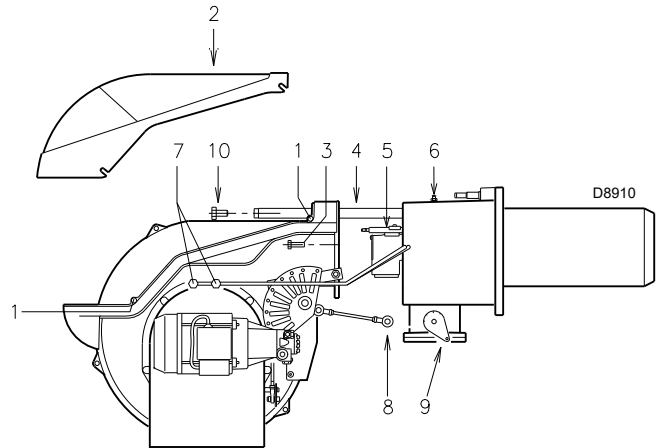

Fig. 42
- Loosen the screws 1)(Fig. 42) and remove the cover 2).
- Replace the screws 3)(Fig. 42) and carefully pull the probe and electrode cables outwards until they are slightly taut.